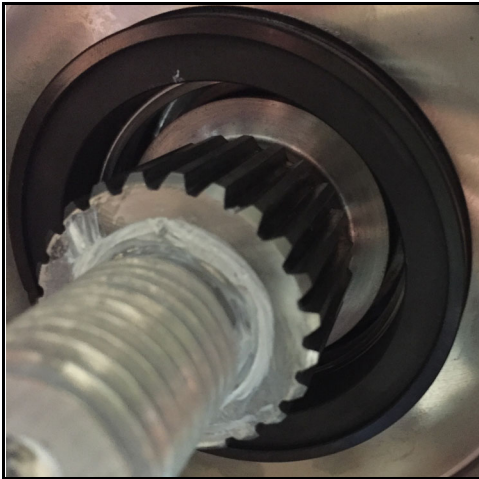

Figure 137 - Stationary seal installed
5. Figure 137 shows the stationary seal installed.